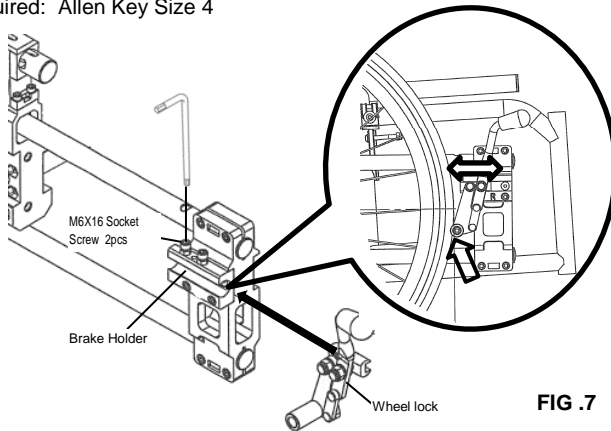

FIG .7
7. Insert the wheel lock into the brake holder and adjust the wheel lock to the correct brake friction. Tighten the brake holding fasteners. (See fig.7)